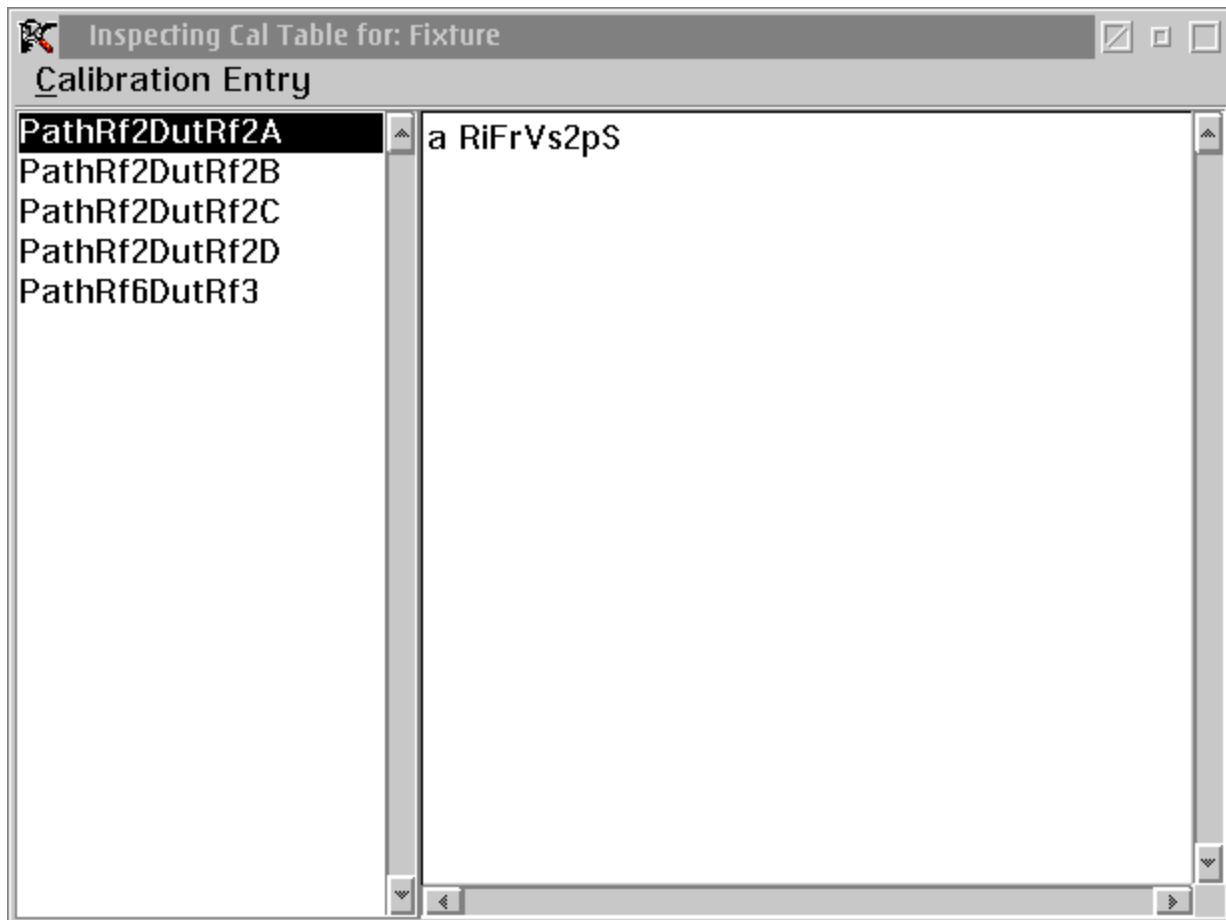

Figure 1
2. From the list of Fixture RF paths that will appear, high light the path that is to be inspected (Figure 1). Use a right mouse button click and choose **View/ Rectangular** (Figure 2)as selections. A plot of the calibration data will appear.